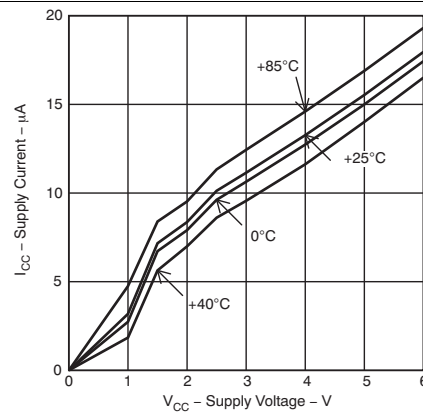

Figure 3. Supply Current vs Supply Voltage
• Changed <a href="#">Figure 3</a> .....	6